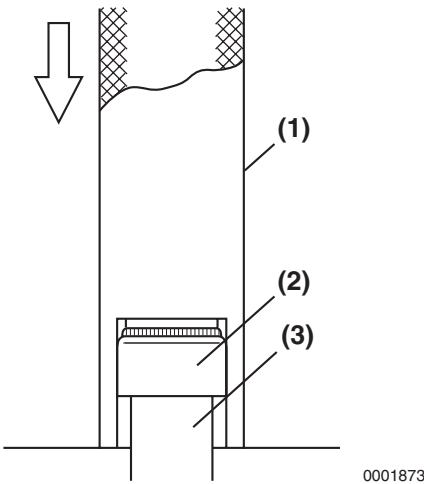

Figure 6-64
1. Oil the lip of the valve stem seal (Figure 6-64, (2)). Using the valve stem seal installation tool (Figure 6-64, (1)), install a new valve stem seal on each of the valve guides (Figure 6-64, (3)).